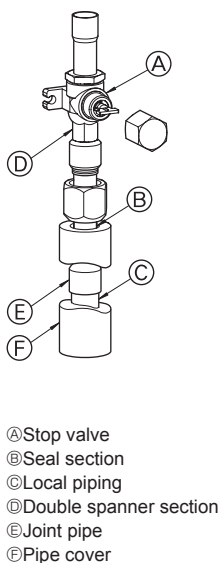

Fig. 4-3
- Use the following procedure for connecting the gas-side piping. (Fig. 4-3) (SW160/200)